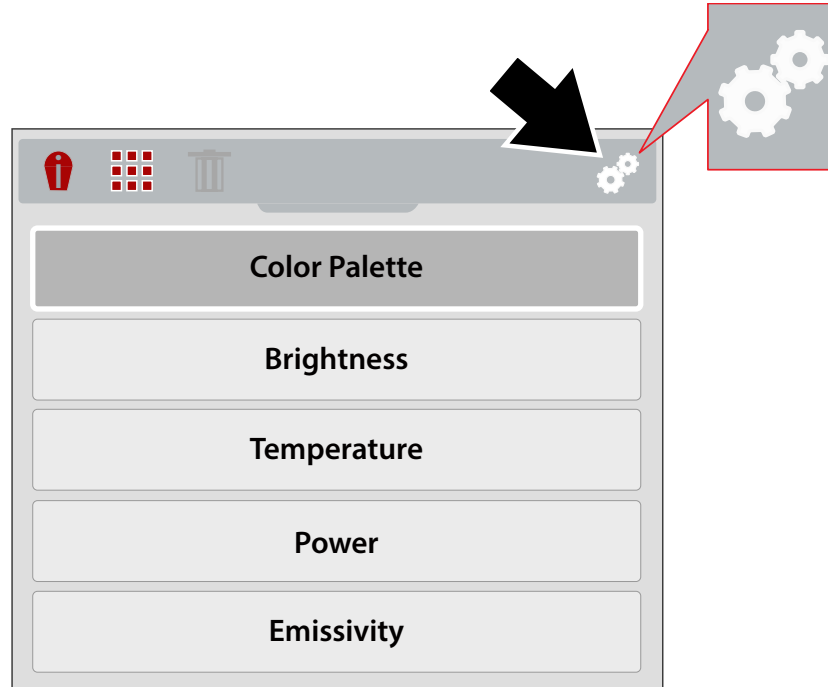

Figure 3-19 Settings Icon
2. Use the **Left** and **Right** (arrow) buttons to select the **Settings** icon from the toolbar (Figure 3-19).